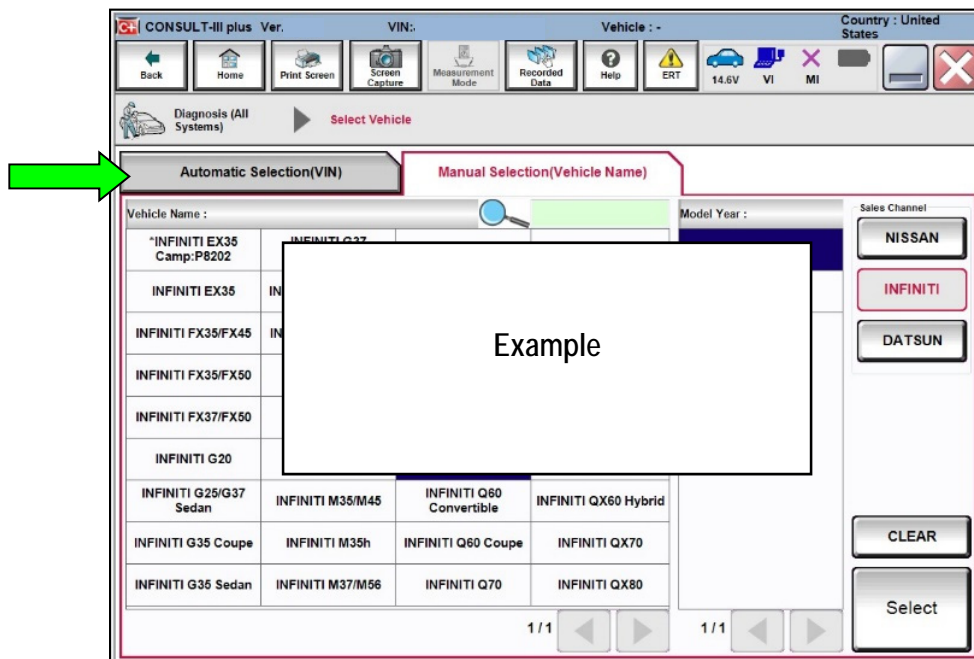

Figure 7
18. If the screen in Figure 7 displays, select **Automatic Selection(VIN)**.
- If the screen in Figure 7 does not display, skip to step 19 on page 8.